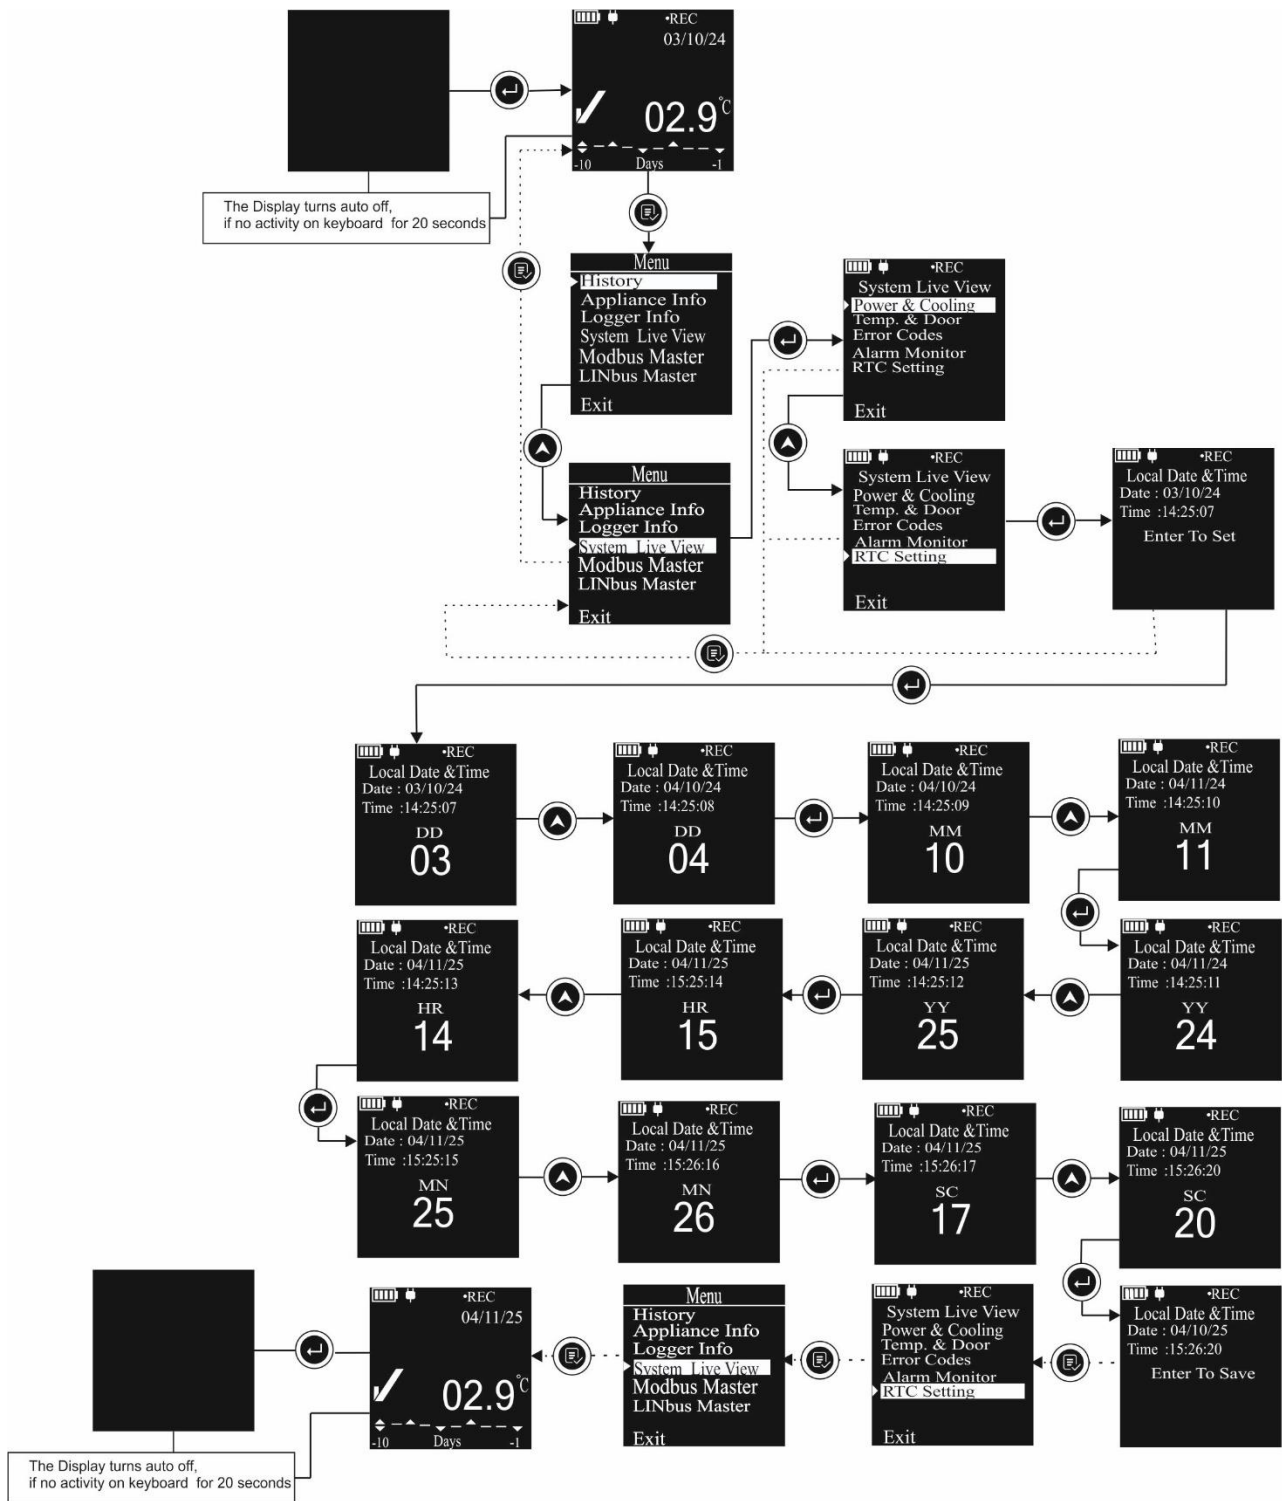

Figure 21 RTC Setting Menu
6. **RTC Setting#:** The device has an ability to set the local date and time through RTC Setting menu as shown in figure 21. To set the Local date and time follow the steps outlined in figure 21 completely to set the date and time properly. Use the "Up" key to update a parameter and the "Enter" key to proceed to the next parameter. The adjusted date and time will be displayed on the home screen.